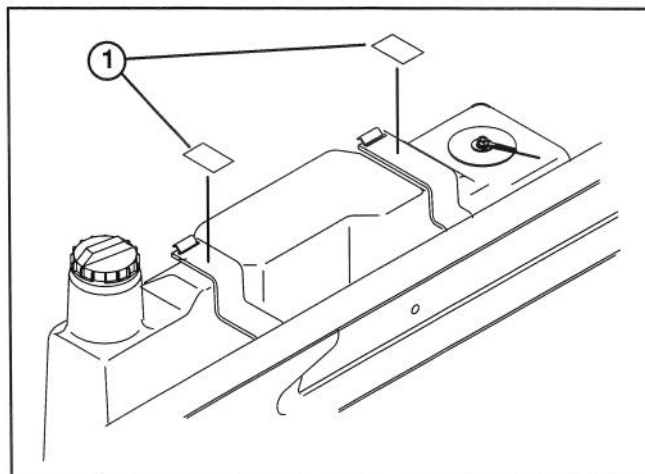

Figure 11
42. Affix a "No Step" decal to top of each fuel tank mounting strap, as shown in figure 11.